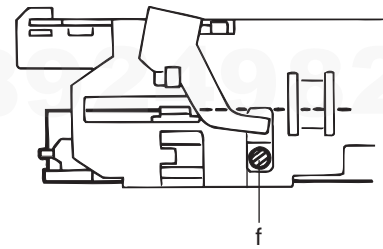

Fig.24
3.2.13.2 Mounting the lifter unit (See Fig.24 to 26)